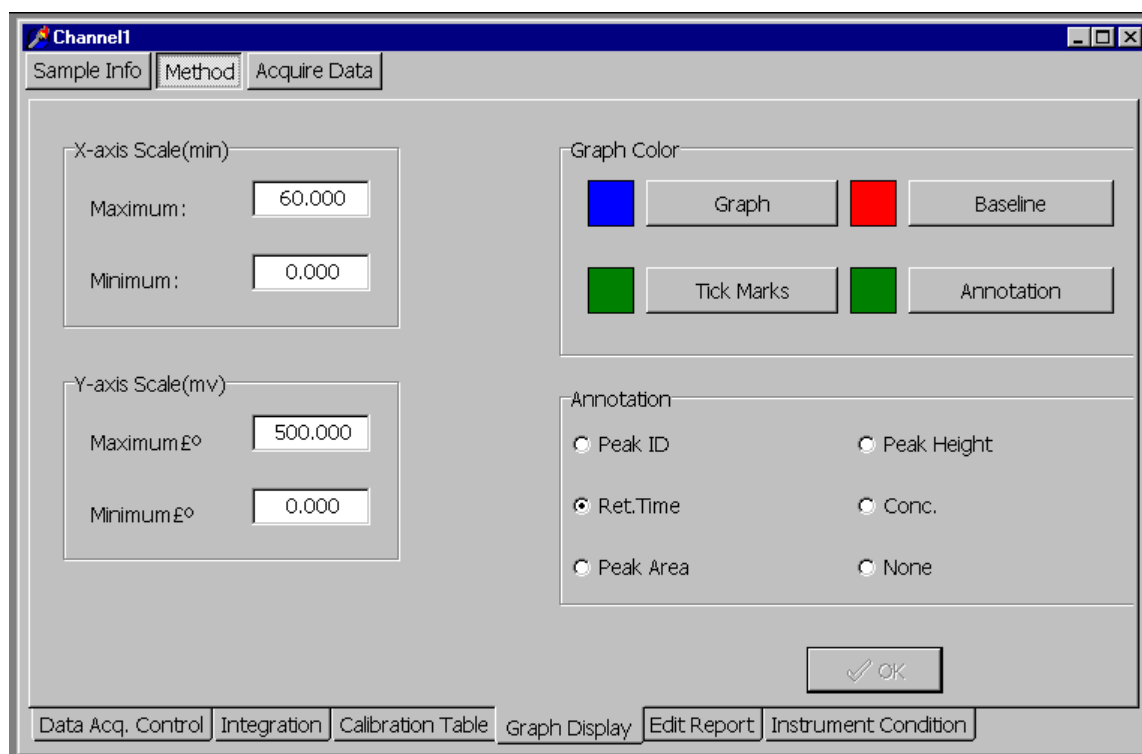

Figure C-240. Dialog Box for Editing the Graph Display
3. The Dialog Box for editing the graph display appears as shown in Figure C-240.